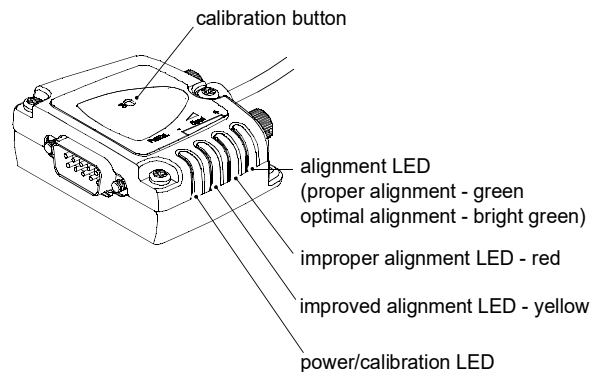

Fig. 4.1 Calibration indicators
- 3) Insert a small diameter, non-metallic shaft (e.g. plastic paper clip) into the hole in the casing and push the Calibration button - see Fig. 4.1. The Power/Calibration LED flashes continuously.